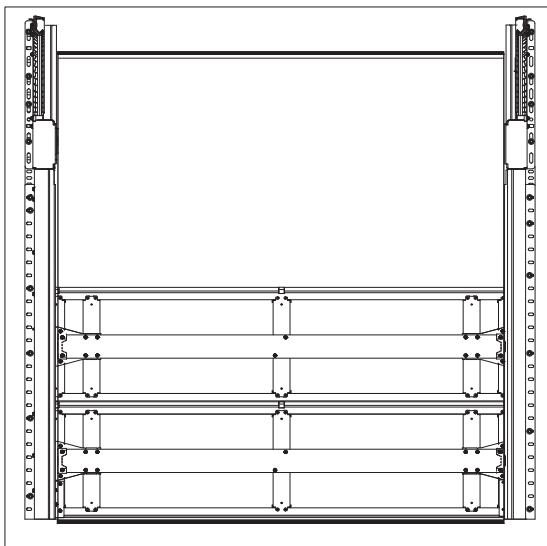

Fig: 3.2.2
- c) Insert the next panel into the tracks and rest on top of the bottom panel. Fig 3.2.2.